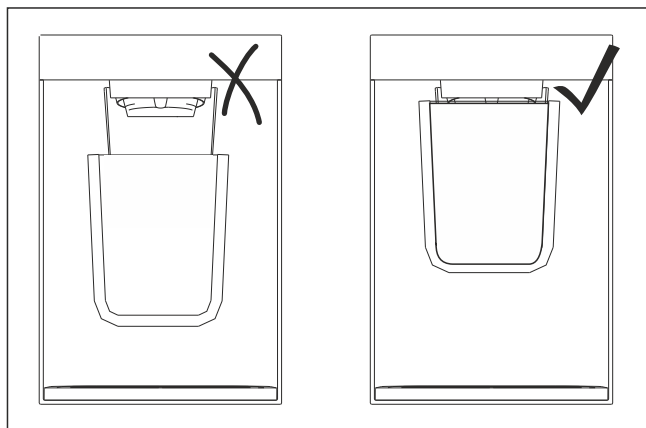

Fig. 104 Example illustration
- ▶ Hold the receptacle as close as possible to the dispensing opening. (see Fig. 104)